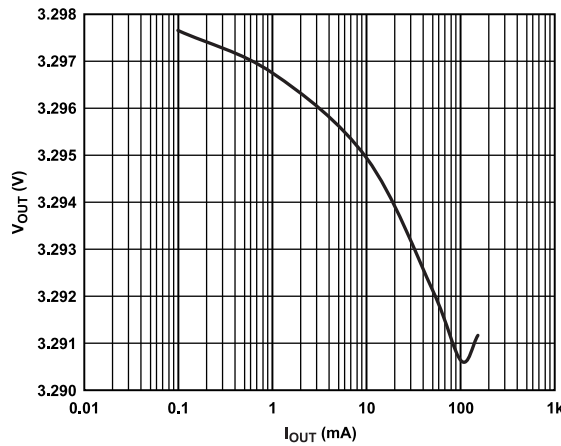

Figure 6. Output Voltage ( $V_{OUT}$ ) vs. Load Current ( $I_{OUT}$ )
- 1 Based on an end-point calculation using 1 mA and 150 mA loads. See Figure 6 for typical load regulation performance for loads less than 1 mA.